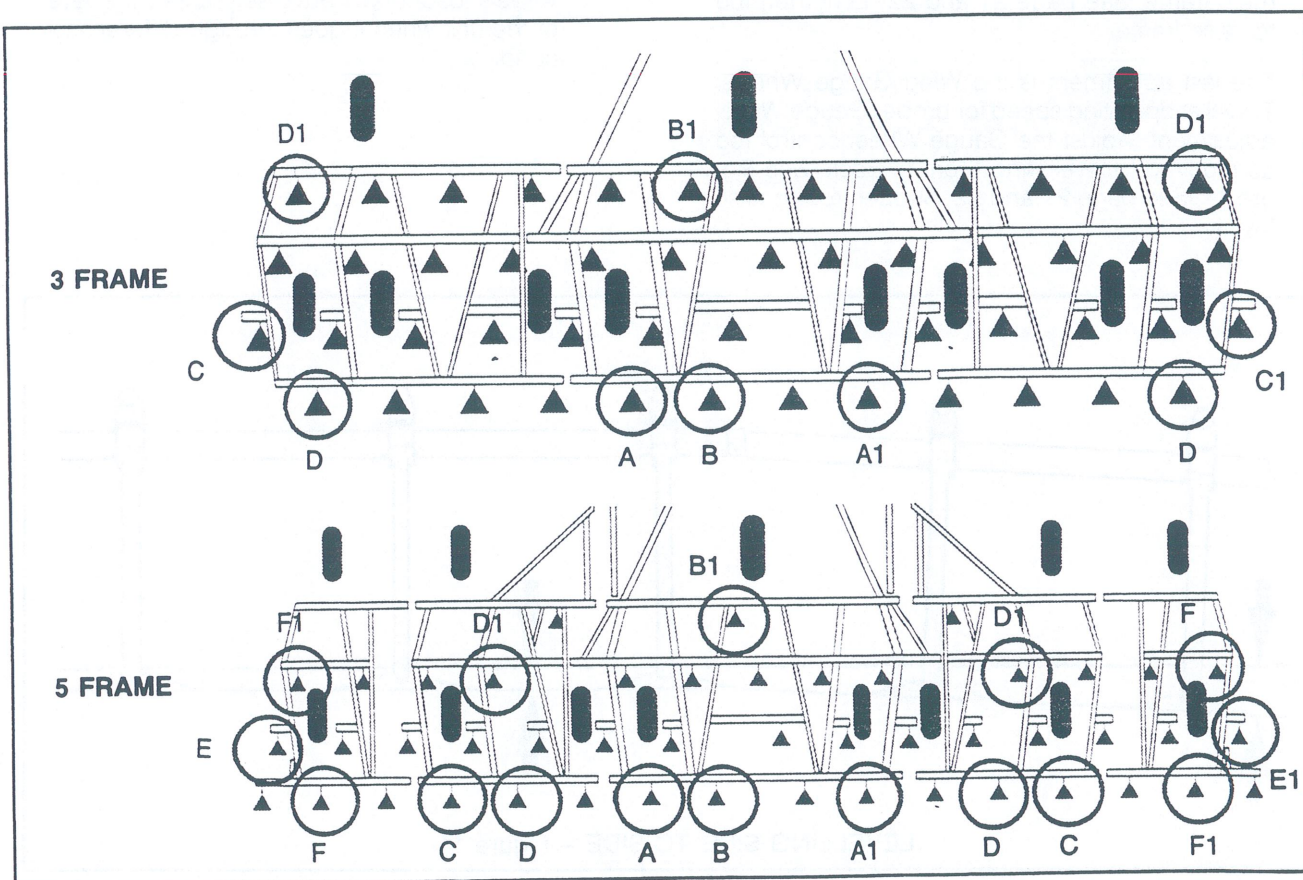
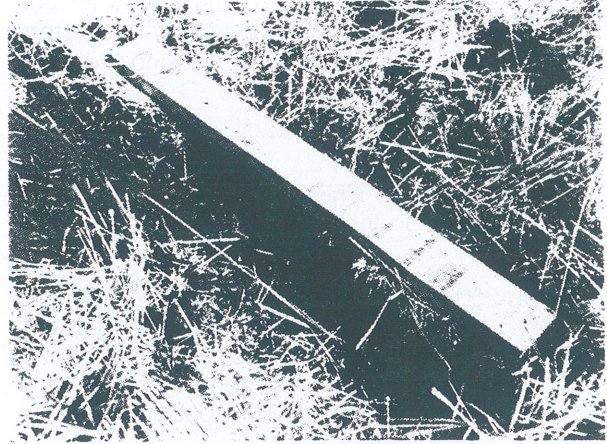
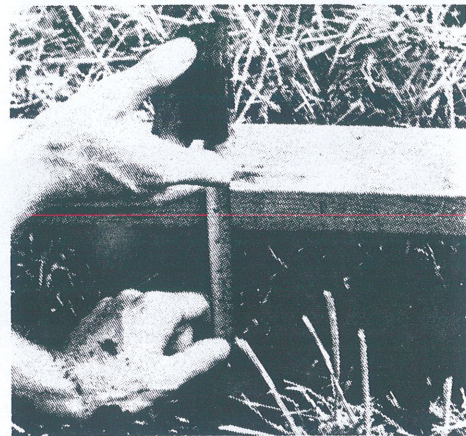
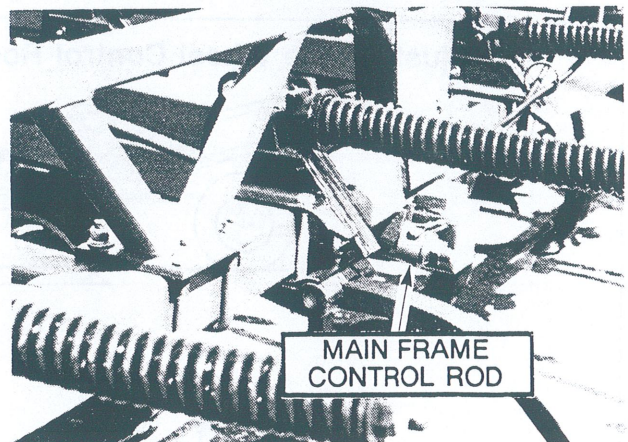

Figure 15
Figure 16
Figure 17
Figure 18
7. **Side to Side:** Place a 2" x 4" board (3 ft. long) behind the two outer most shanks of the main frame, (A & A1). See Figure 15 & 16.
Kneel down on board and carefully brush the soil away from the board down to where the bottom of the sweeps cut through the soil. See Figure 16. CHECK depth by measuring from the bottom sweep cut to the bottom of the board. See Figure 17. Adjust the main frame cylinder control rods as required to level the main frame. See Figure 18.
8. **Front to Back:** Using the board as in (7) check the level of two adjacent shanks (B & B1). See Figure 15. If the frame is not level, then adjust the two main frame control rods equally. See Figure 18. Clockwise to raise
NOTE: On 5 frame units check the **INNER** Wings first, then the **OUTER** Wings. Ensure the correct shanks are checked for side to side level. See Figure 15 C & C1 (three frame); 5 frame, inner wing C & C1; 5 frame, outer wing E & E1.
13. Once side to side level is satisfactory, check the unit for front to back level by checking the front and rear trips. See Figure 16. D & D1 (three frame); D & D1 and F & F1 (five frame).